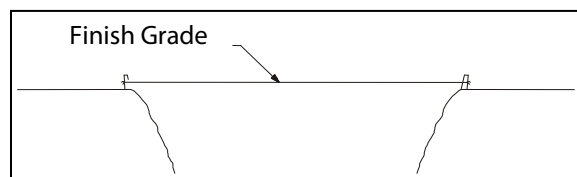

Figure 1
1. Mark off finish grade. (See Figure 1).